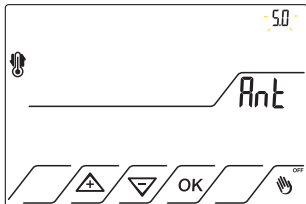

Fig.20
7.4.4 Press  or  to set the desired frost protection. Fig.20